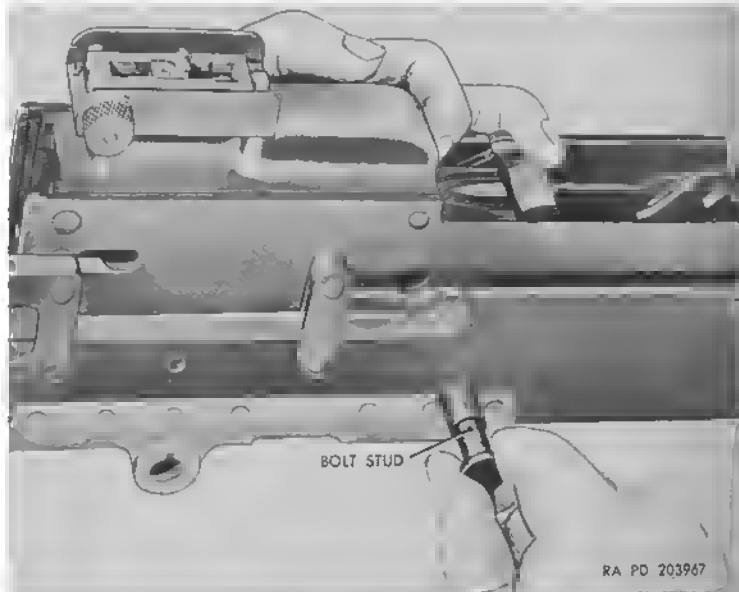
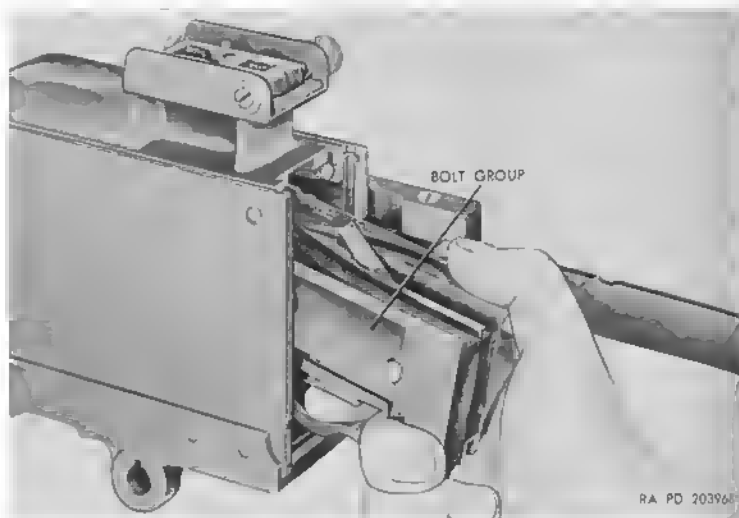

Figure 35. Removal of bolt stud.
Figure 36. Removal of bolt group.
b. Move the bolt back to meet the bolt stud aperture in right side plate assembly and remove the bolt stud (fig. 35). Slide bolt group (fig. 36) out of the right side plate assembly.